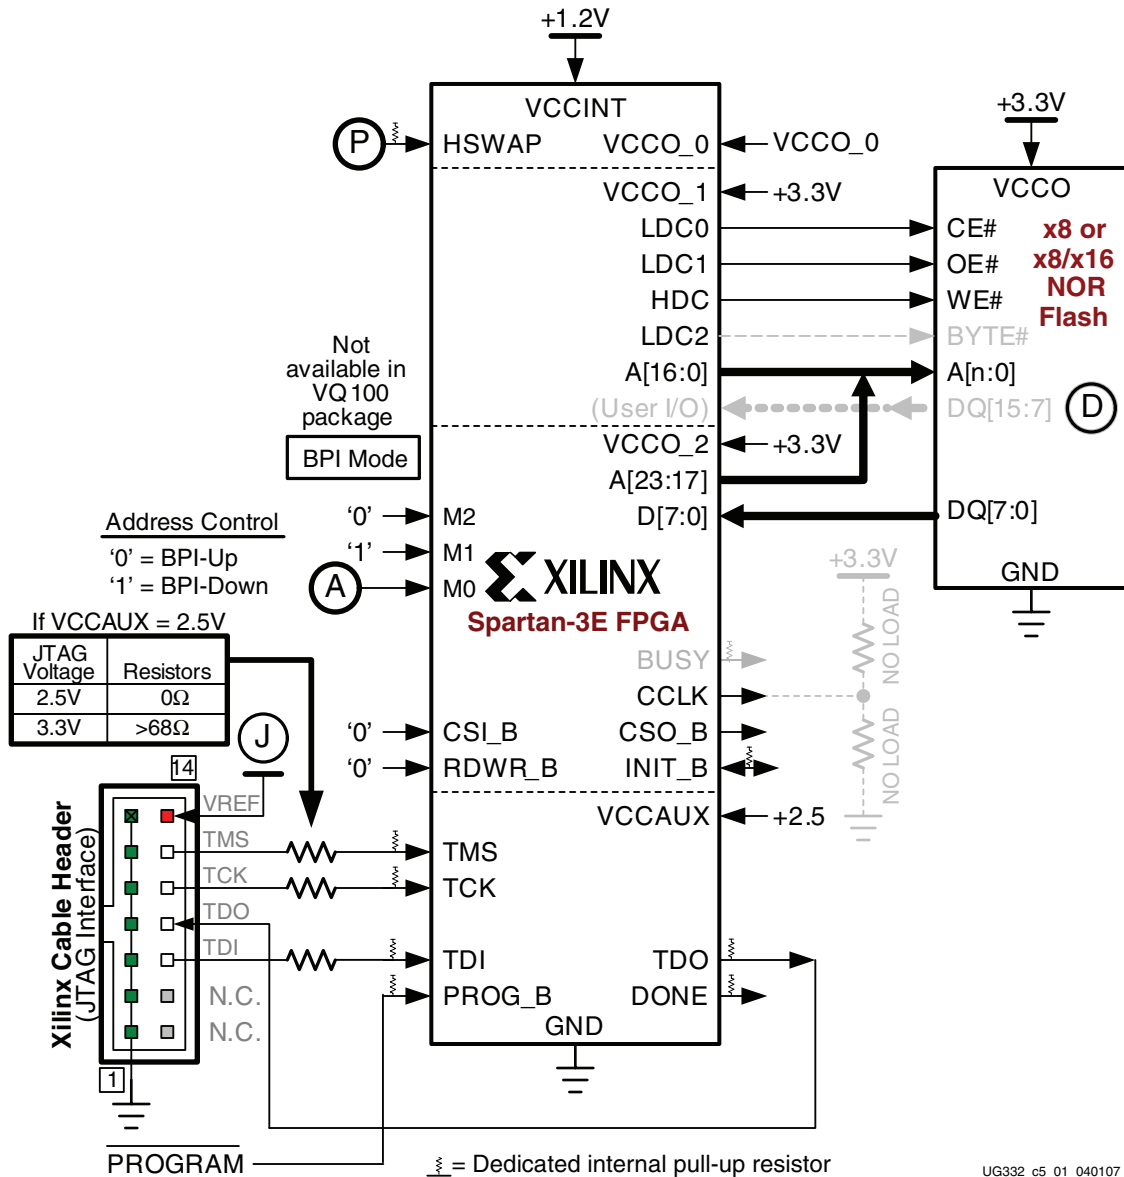

Figure 5-1: Spartan-3E FPGA Configured from Parallel NOR Flash
In BPI mode, a Spartan-3E or Spartan-3A/3AN/3A DSP FPGA configures itself from a standard parallel NOR Flash PROM, as illustrated in Figure 5-1, page 130 for Spartan-3E FPGAs and Figure 5-2, page 131 for Spartan-3A/3AN/3A DSP FPGAs. The figures show optional components in gray and designated “NO LOAD”.
(A) As shown in Figure 5-1, page 130, the Spartan-3E FPGA family supports two versions of BPI configuration, defined by the M0 mode select pin. As shown in Table 5-2, page 133,